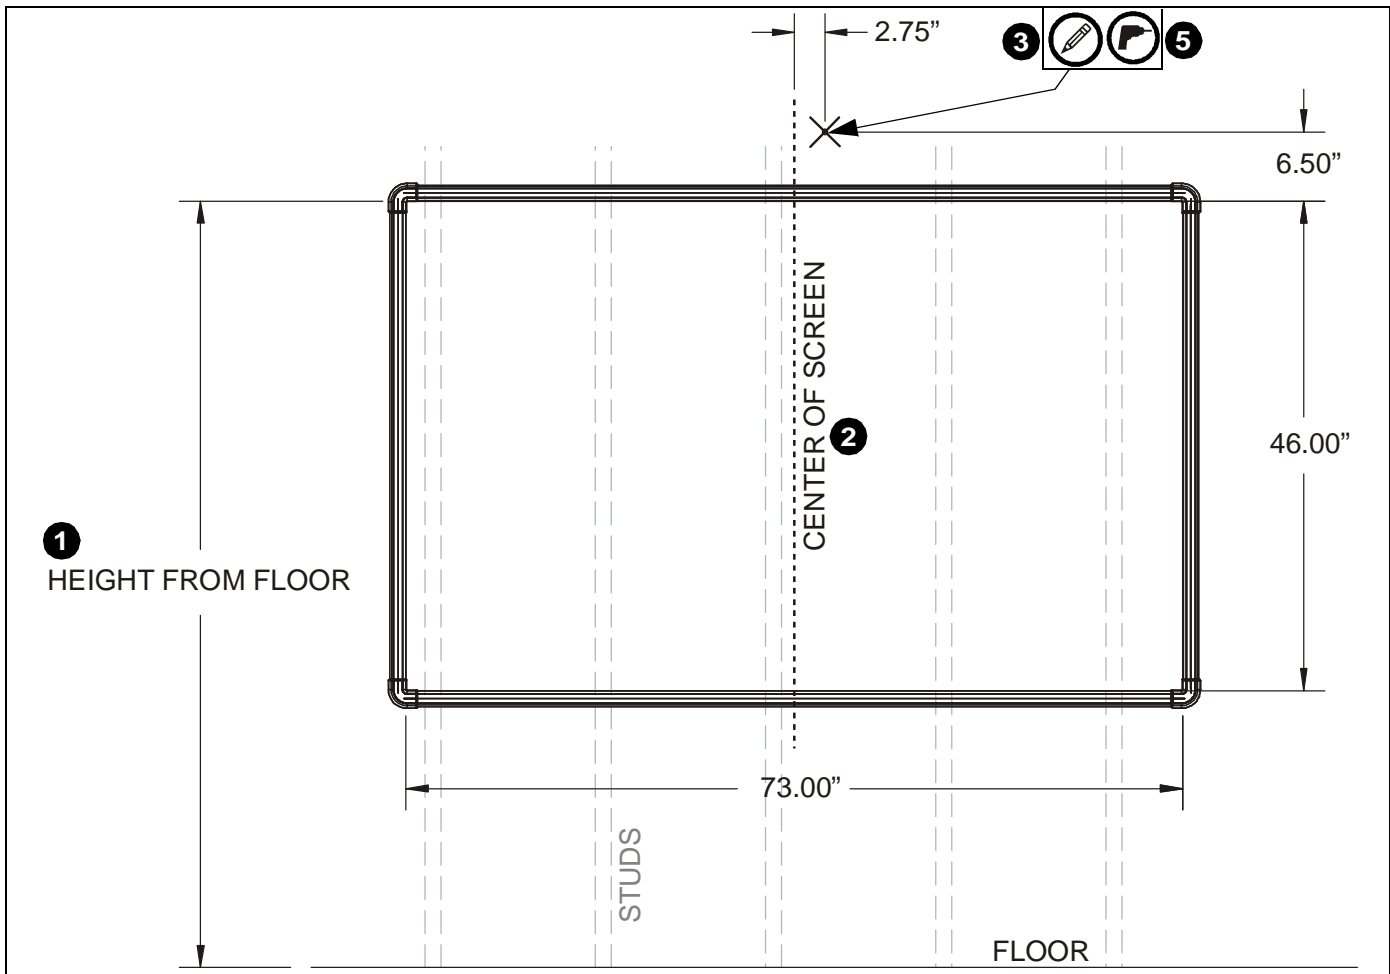

Figure 1
1. Determine desired height of screen (measured from floor). (See Figure 1)
2. Determine desired center of screen. (See Figure 1)
3. Measure **6.5 inches up** from desired height (top) of screen and **2.75 inches to the right** of center of screen and mark location. (See Figure 1)
5. Drill one pilot hole (see Table 1 for size) at location marked in Step 3 (See Figure 1) and follow fastener information (appropriate for wall type) located in Table 1.